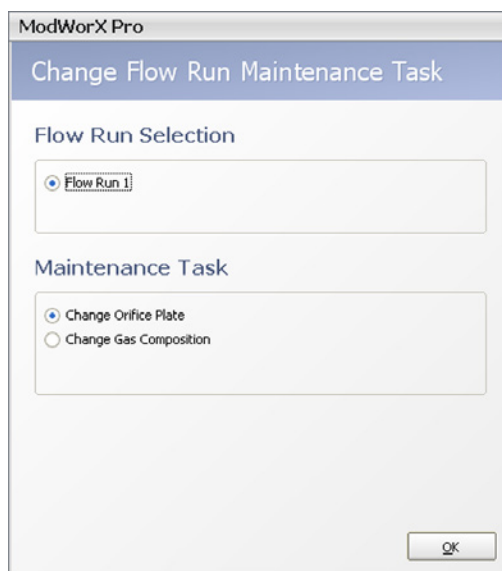

Figure 9.6
1. If Change Gas Composition is not displayed in the Maintenance Task field at the top of the Maintain Flow Run screen, click on **Change Task**. The Change Flow Run Maintenance Task dialog will appear (Figure 9.6, page 132).